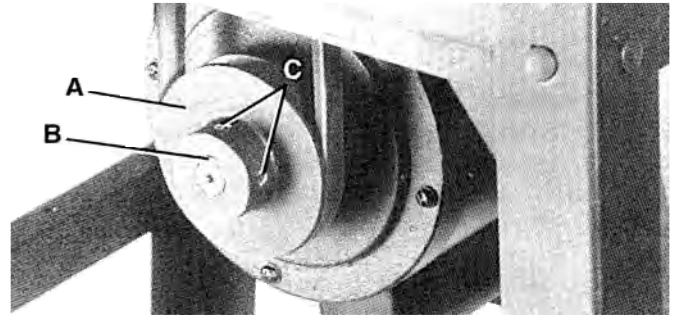

FIGURE 12
1. Assemble motor pulley (A) Fig. 12, to motor shaft with the hub of the pulley in the outer position as shown. Make sure key (B) is inserted in the keyway of the motor pulley and shaft.